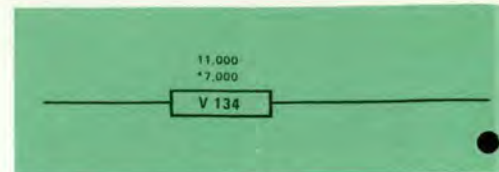

FIG. 1
7. US En route low altitude charts provide MEA information above the airway identification block. An MOCA (Minimum Obstruction Clearance Altitude) is sometimes shown directly below the MEA and is identified by an asterisk (See Fig 1). The designation of an MOCA indicates: